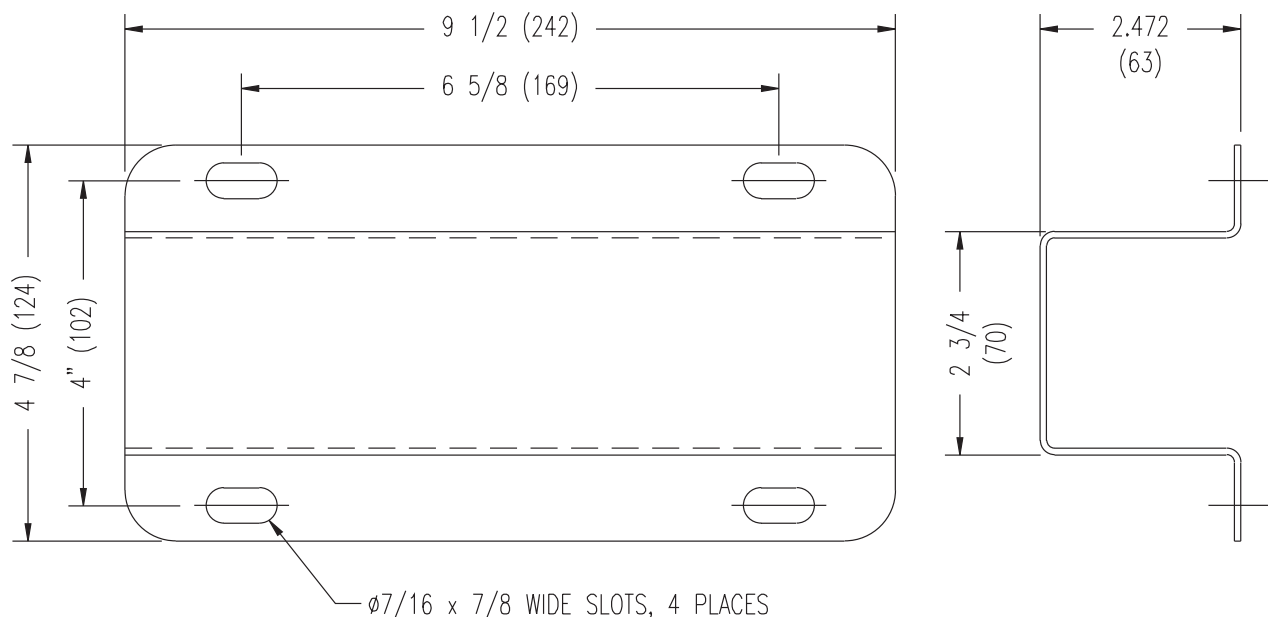

Figure 2. Installation Bracket
- Mount the switchover system to a flat surface using the appropriate hardware at hole locations provided in the bracket. Dimensions for these holes are shown in Figure 2 (below).